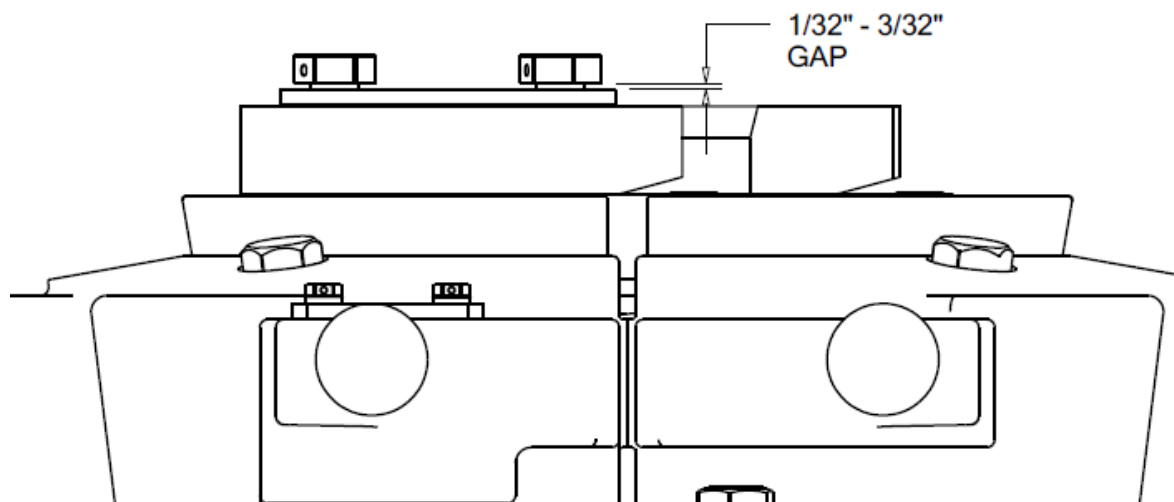

Figure 2
- ▶ Tighten all insert retainer screws. Then tighten the setting plate bolts to the torque value of a minimum of **18 ft-lb.** & maximum of **20 ft-lb.** ensuring there is a **1/32” to 3/32” gap** between the underside of the bolt head and the washer or setting plate retainer. (See Figure 2)